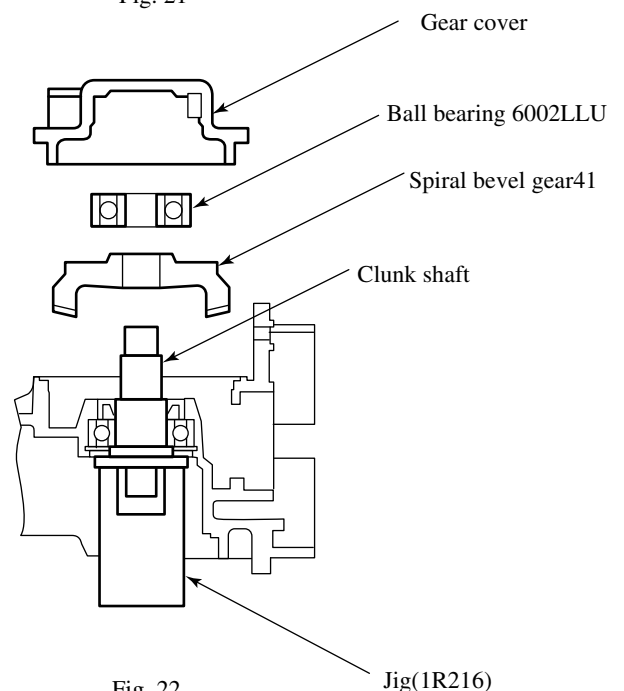

Fig. 22
- 4) Fixing Clunk shaft steadily by Jig 1R216, press in Spiral gear 41 and Ball bearing 6200LLB . After that, install Gear cover. (See Fig.22)